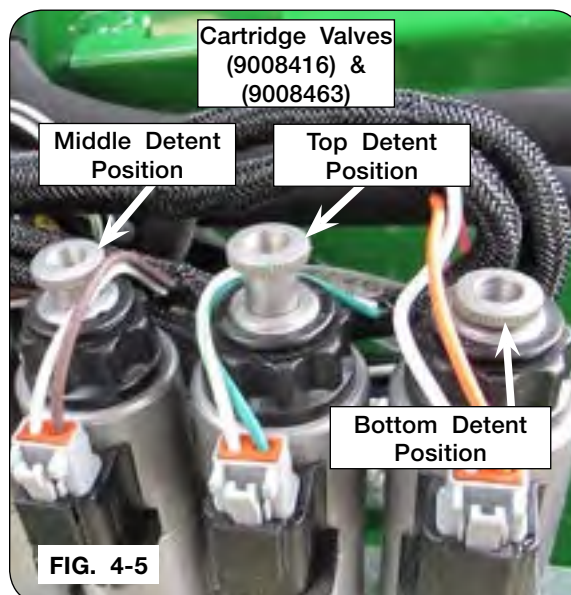

FIG. 4-5
NOTE: Only one cartridge valve (9008416 & 9008463) must be in the top or bottom detent position at a time to function properly. All other valves must be in the middle detent position. (FIG. 4-5 & 4-6)
5. Operate the desired function on valve (9008416 & 9008463) by rotating the manual override knurled knob from the locked neutral position. (FIG. 4-5, 4-6, & 4-8)
8. Return knurled knob to center and lock valve (9008416) & (9008463) in position. (FIG. 4-5, 4-6 & 4-8)